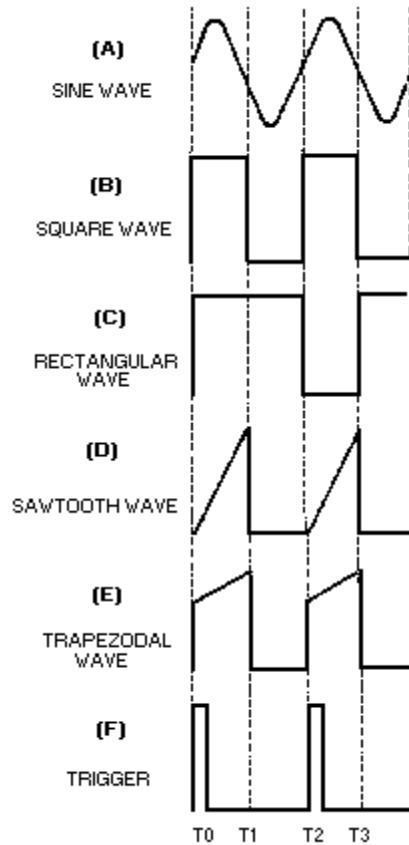
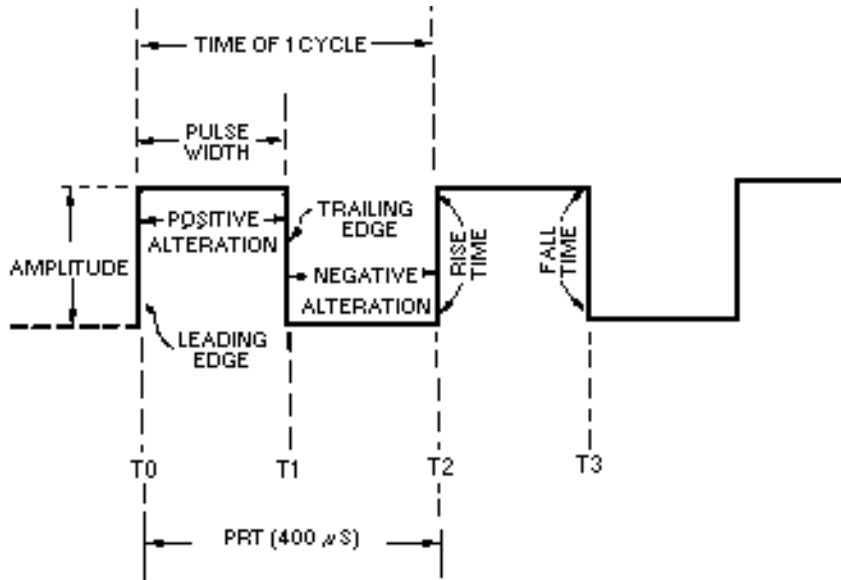

Figure 3-1.—Periodic waveforms.
Figure 3-2.—Square wave.
Each completed pattern of a periodic waveform is called a CYCLE, as shown by the SINE WAVE in figure 3-1, view (A). Sine waves were presented in NEETS, Module 2, *Alternating Current and Transformers*, Chapter 1.
A SQUARE WAVE is shown in figure 3-1, view (B). As shown, it has two alternations of equal duration and a square presentation for each complete cycle. Figure 3-2 shows a breakdown of the square wave and is the figure you should view throughout the square wave discussion. The amplitude is measured vertically. The time for a complete cycle is measured between corresponding points on the wave (T0 to T2, or T1 to T3).
One alternation is called a PULSE. The time for one complete cycle is called the PULSE-REPETITION TIME (prt). The number of times in 1 second that the cycle repeats itself is called the PULSE-REPETITION FREQUENCY (prf) or PULSE-REPETITION RATE (pr). If each alternation in figure 3-2 is 200 microseconds (μs), the prt will be 400 microseconds, and the prf will be 2,500 hertz. The following examples are provided to illustrate the mathematical relationship between prf and prt:
A rectangular wave is similar to the square wave. The difference is that in the rectangular waveform, the two alternations of the waveform are of unequal time duration. Figure 3-1, view (C), shows that the negative alternation (pulse) is shorter (in time) than the positive alternation. The negative alternation could be represented as the longer of the two alternations. Either way, the appearance is that of a rectangle.
The SAWTOOTH waveform is shown in figure 3-1, view (D). A sawtooth wave resembles the teeth of a saw blade. There is a rapid vertical rise of voltage from T0 to T1, which is linear (straight). At T1 this voltage abruptly falls (essentially no time used) to its previous static value. The voltage remains at this value until T2 when it again has a linear rise. You can see this action in an oscilloscope where there are two voltage input locations, vertical and horizontal. If you apply a linear voltage to the vertical input, the electron beam will be forced to move in a vertical direction on the crt. A linear voltage applied to the horizontal input will cause the electron beam to move horizontally across the crt. The application of two linear voltages, one to the vertical input and one to the horizontal input at the same time, will cause the
A TRAPEZOIDAL wave looks like a sawtooth wave on top of a square or rectangular wave, as shown in figure 3-1, view (E). The leading edge of a trapezoidal wave is called the JUMP voltage. The next portion of the wave is the linear rise or SLOPE. The trailing edge is called the FALL or DECAY. A trapezoidal wave is used to furnish deflection current in the electromagnetic cathode ray tube and is found in television and radar display systems. Electromagnetic cathode ray tubes use coils for the deflection system, and a linear rise in current is required for an accurate horizontal display. The square or rectangular wave portion provides the jump voltage for a linear rise in current through the resistance of the coil. This will be explained further in a discussion of the trapezoidal sweep generator.
A trigger is a very narrow pulse, as shown in figure 3-1, view (F). Trigger pulses are normally used to turn other circuits on or off.